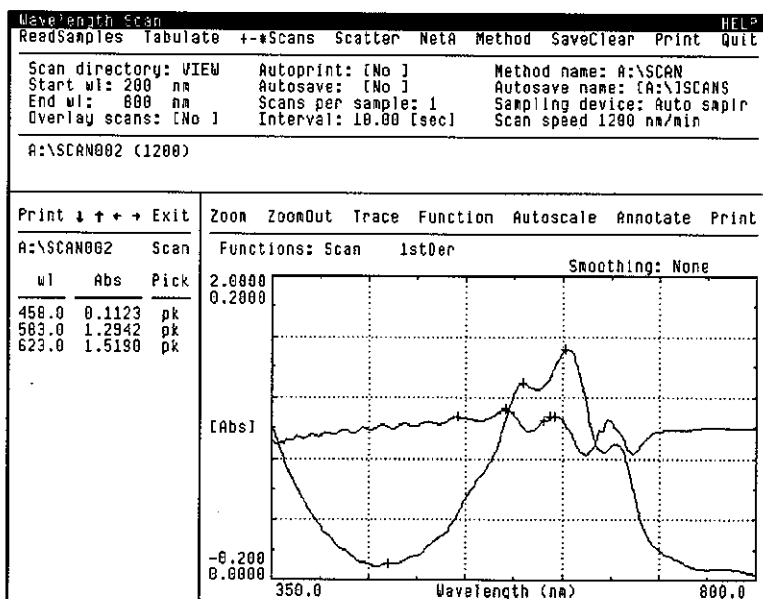

Figure 6-6. Wavelength Scan Window with Multiple Functions
5. Example data, plotted with the selections in the Function Selection window (Figure 6-5), are shown in Figure 6-6.